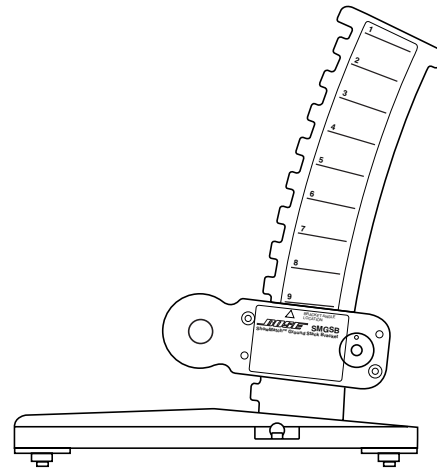

Fig. 1. Position number.
7. Position the top of the adjustable link directly under the line that corresponds to the desired position. The indicator arrow on the adjustable link points to the position number; see Fig. 1. Refer to the table in Fig. 2 for the corresponding pitch angle for each full-range module.